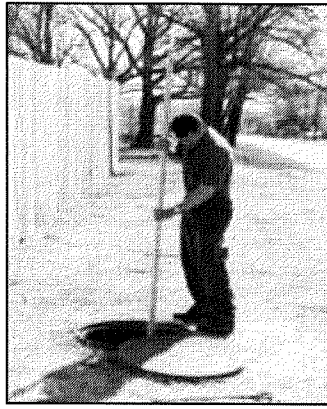

Figure 1. Measuring sediment in swirl chamber using stadia rod. Inspections are performed from the surface through the manhole access cover.
1. Lower measuring device (e.g. stadia rod) into swirl chamber through service access provided (Figure 1). From a reference point at the top of the service access: